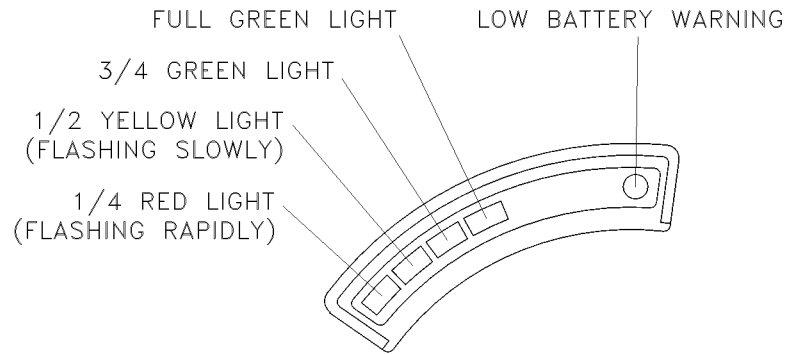

Figure 077-3-11. Heads-Up Display LEDs
- (e) Heads-Up Display. The mask-mounted regulator on Configuration 4 comes equipped with the HUD (Figure 077-3-11). The HUD is a battery-powered, independent, end-of-service-time indicator with cylinder air level status indicators and an integrated low battery status indicator light-emitting diode (LED). The HUD provides a constant status of the air supply with five LEDs that appear at the lower level of the facepiece field of vision. The HUD LEDs signify the following when lit:
- (1) Two rectangular green LEDs indicate cylinder air pressure is full to 3/4 full.
- (2) One rectangular green LED indicates cylinder pressure is 3/4 to 1/2 full.
- (3) One rectangular yellow slowly flashing LED indicates cylinder pressure is 1/2 to 1/4 full.
- (4) One rectangular red rapidly flashing LED indicates 1/4 cylinder pressure remains.
- (5) One round red LED indicates a low battery. The mask-mounted regulator low-pressure hose is integrated with the HUD electrical power cable. This cable connects the HUD to the pressure reducer via an electronics package called the Visualert.